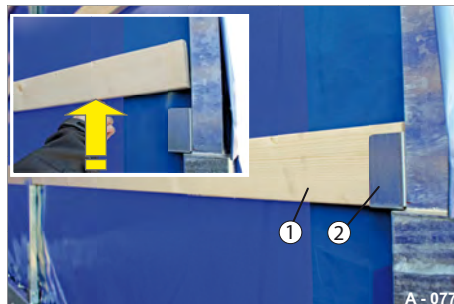

Fig. 81 Disengaging push-in slats
- ▶ Disengage the top push-in slats (Fig. 81/1) from one side - if necessary, use the telescopic operating rod.